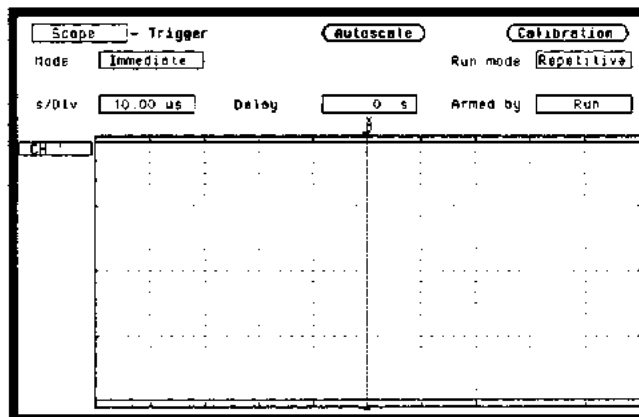

Figure 3-47. Trigger Menu Configuration
7. Press the TRACE/TRIG key and set the **Mode** to **Immediate** and **Run mode** to **Repetitive** as in figure 3-47.